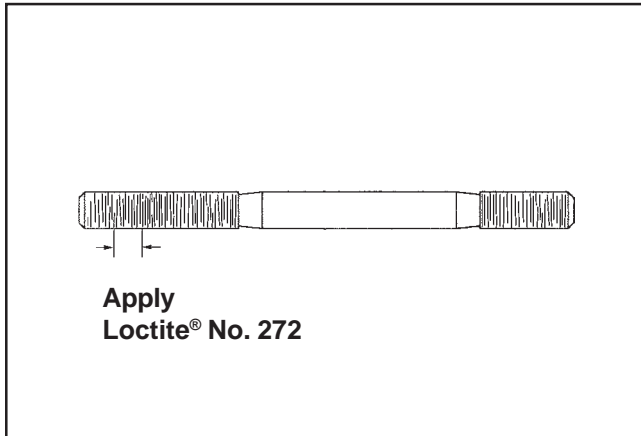

Figure 11-17. Applying Loctite to New Stud.
1. Identify the longer threaded end of new stud. See Figure 11-17. If Dri-Loc Loctite® is not visible, apply Loctite® No. 272 to 5-6 threads approximately 7 threads from the bottom. See Figure 11-17.